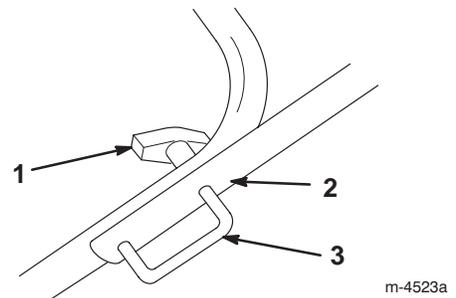

Figure 3
2. Loosen the knobs and pull out the handle locks until the upper handle rotates freely (Fig. 3).
5. Fully insert the handle locks (Fig. 3).
- Fully insert the handle locks (Fig. 3).